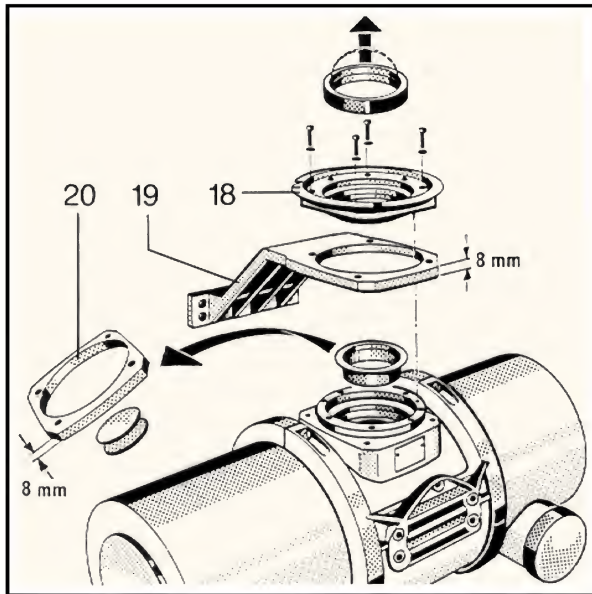
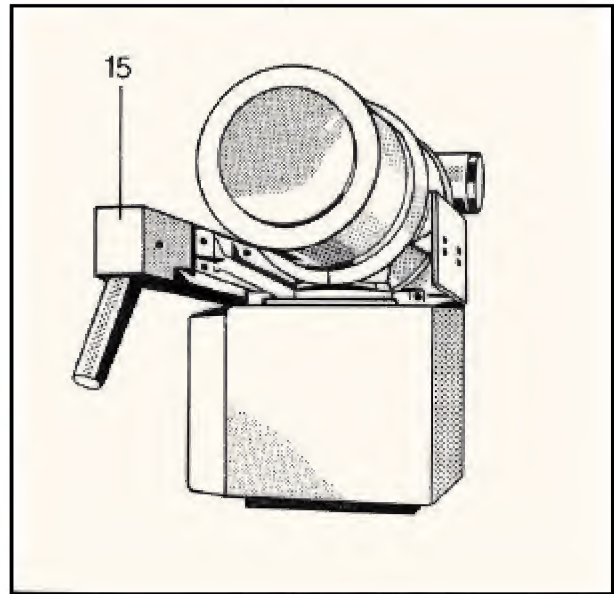

Fig. 8
Fig. 9
Remove intermediate ring (Fig. 8/item 20) from flange (item 18) and mount support arm (item 19). Fasten control handle (Fig. 9/item 15) to support arm (item 19).